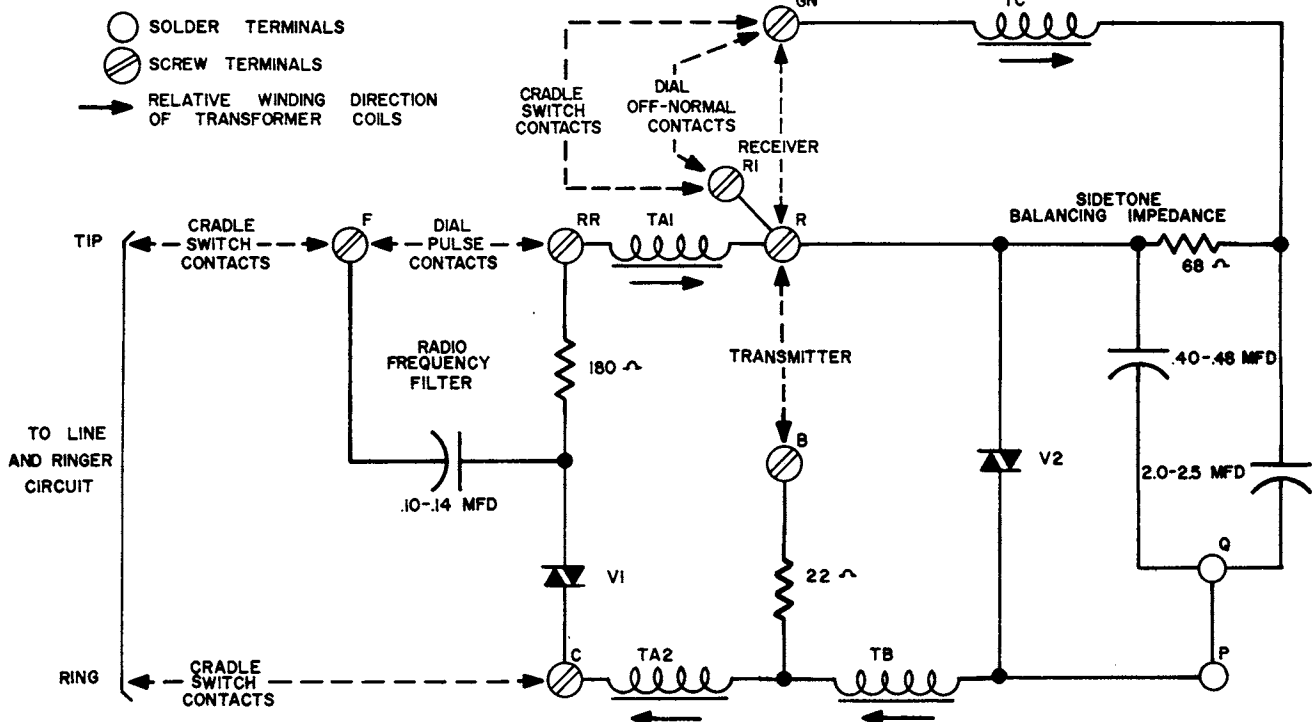
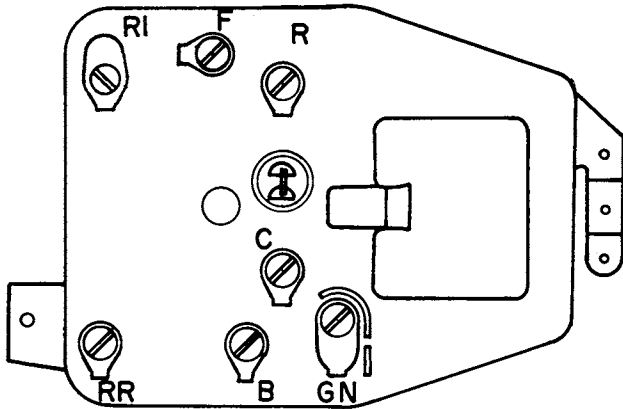

Fig. 2-1 CIRCUIT DIAGRAM
Fig. 3-1 TERMINAL BOARD LAYOUT
2.1 The circuit is shown in Fig. 2-1; the dashed lines show typical connections to other components of a complete telephone instrument. The features of the circuit are briefly discussed in the following paragraphs.
The direction of winding of the four coils of the transformer is indicated by arrows in Fig. 2-1. Received speech currents pass via windings TA1, TB and TA2, each of which produces an additive voltage in winding TC. The received currents also produce a voltage across the 68 ohms resistor that opposes and is almost equal to that produced by the induced voltages in winding TC. There is, therefore, very little power loss in the resistor and varistor and maximum power in the receiver. The low impedance of the transmitter is matched to the loop by the turns ratio of winding TB to windings TA1 and TA2.
3.1 Thorough testing of the network assembly can only be performed with elaborate test equipment. An adequate check on performance, for maintenance purposes, is to compare a suspected unit with a known good unit by substitution. Resistance and capacitance checks can be carried out between many of the terminals, as can be seen from Fig. 2-1. Note that the soldered connection between terminals P and Q can be opened to permit testing of the two network capacitors. Fig. 3-1 shows the layout of the terminal board of the assembly.